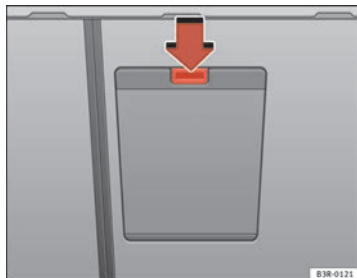

Fig. 117 Detailed view of the rear of the rear backrest: Ski bag cover
- Press the release catch for the ski bag cover ⇒ fig. 117 -arrow- and swivel the cover downwards.